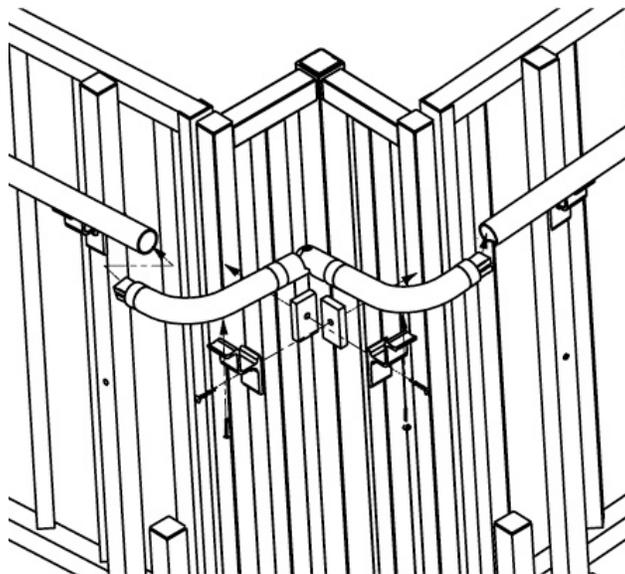

**FIG. 38**
- 8.6.3 Attach long legs of elbows in the middle with a ring joiner, and then attach both elbows to handrail tubes with ring joiners (FIG. 38)